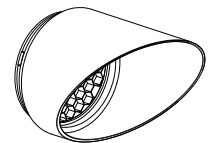

fig. 6
3. Insert the mesh ring, from the bottom of the snoot or the wall wash (fig. 5) until it's firmly in place in the holder connecting part of the accessory. (fig. 6)